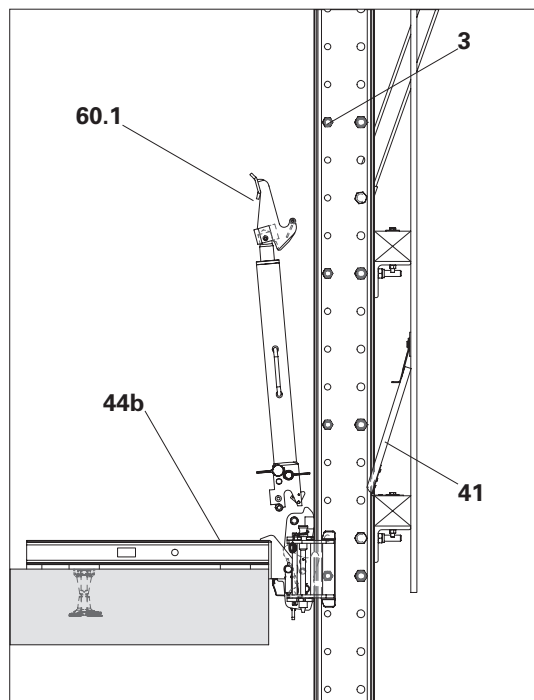

Fig. D4.10
- the claw (60.1) is relieved by the spacer (3).
3. Close the foldable covers (41).
4. Tilt the climbing device backwards, operate the locking lever (60.6) on the cylinder base and lift out the climbing device. (Fig. D4.10 + D4.10a)